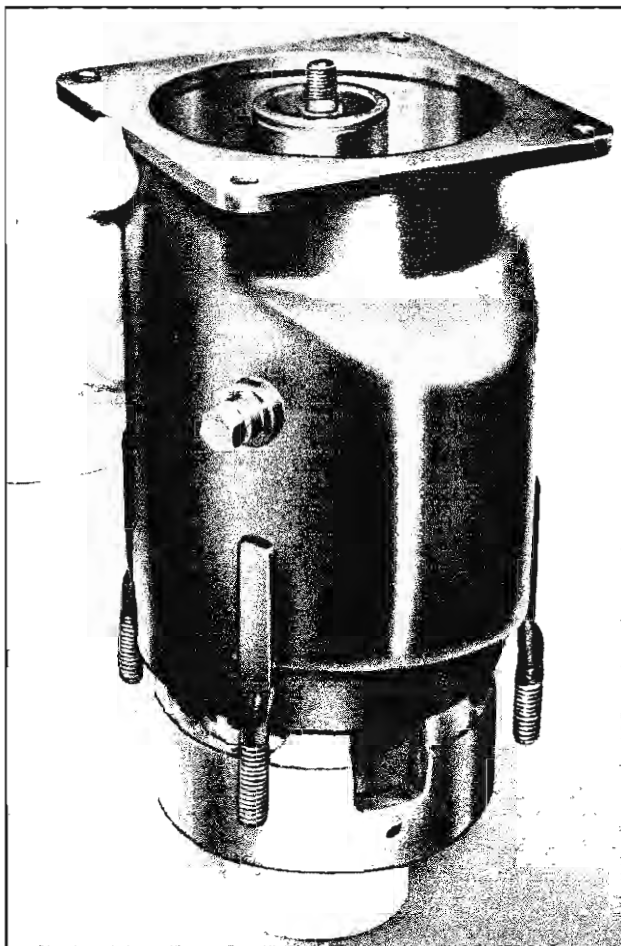

Fig. 49—Installing Shell Over Internal Mechanism
10. Locate the oil intake tube hole in the rear discharge plate. Line up the oil sump with this hole location and slide the shell down over the mechanism while supporting the mechanism on J-9521 (fig. 49).